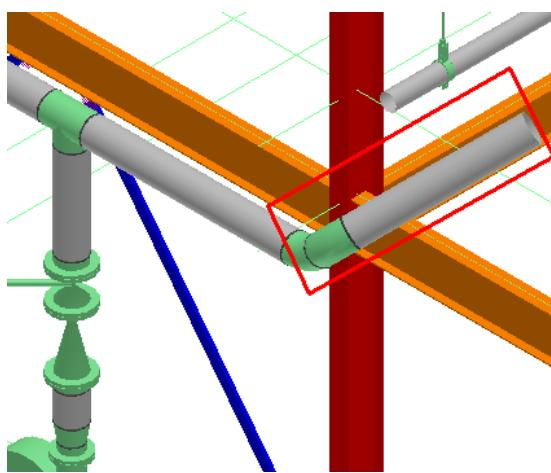

Figure 9: Placed Elbow and Routed Pipe
2. Insert a **45 deg elbow** and route a **5 ft** pipe from the free end of the pipeline **1001-P** in Unit **U01** of your workspace by using the **Insert Component** and **Route Pipe** command. After inserting the elbow and routing the pipe the view of the model should resemble Figure 9.